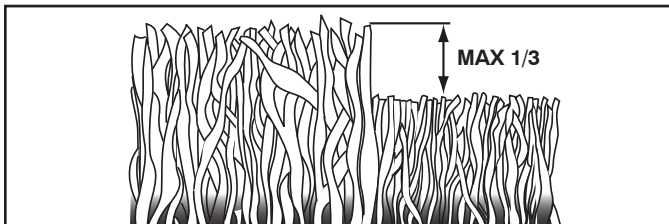

Fig. 33
- For best results, adjust the mower cutting height so that the mower cuts off only the top one-third of the grass blades (See Fig. 33). For extremely heavy mulching, reduce your width of cut on each pass and mow slowly.